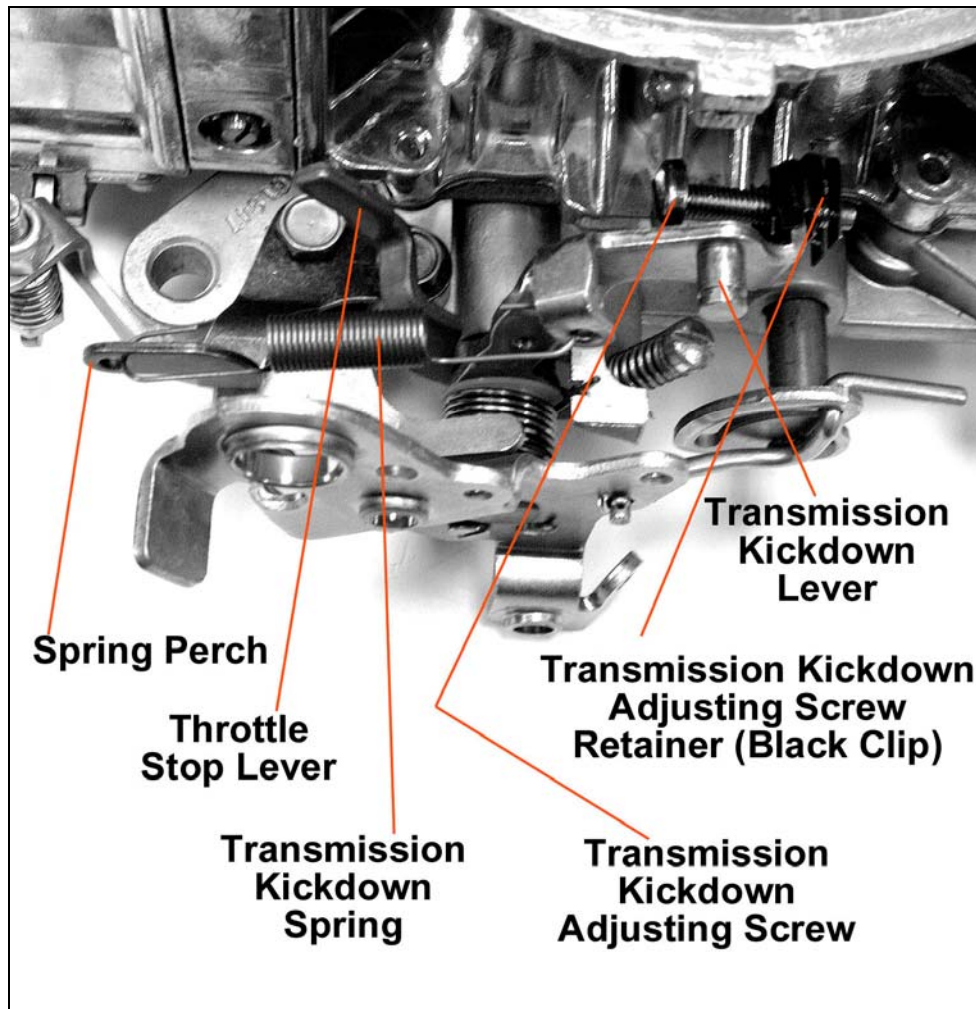
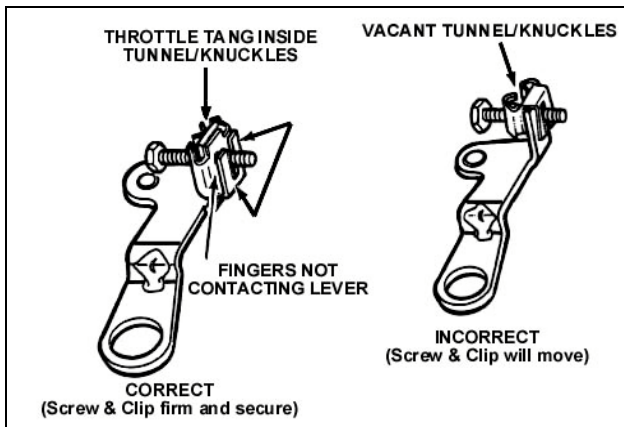

Figure 2—Ford applications
Figure 3—Ford applications
2. Insert the transmission kickdown screw with the black retaining clip on the transmission kickdown lever (Figure 2). This assembly must be installed according to the detailed drawing (Figure 3).
4. Install the transmission kickdown spring between the transmission kickdown lever and spring perch on the solenoid/dashpot bracket (Figure 2).